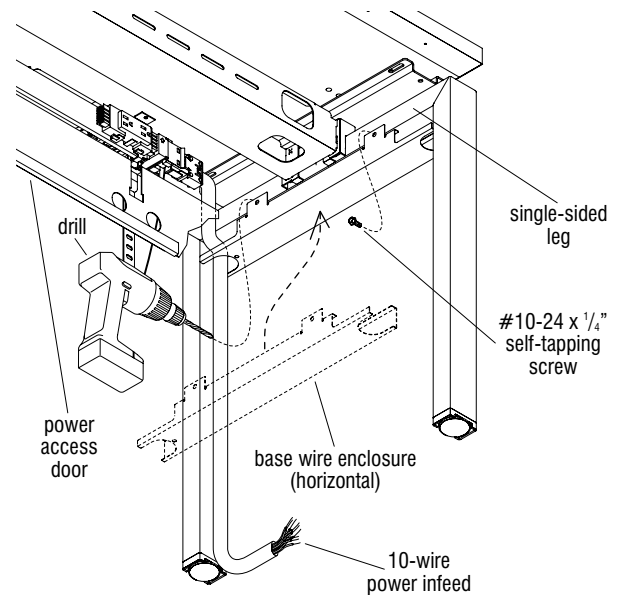

Figure 51
1. Determine which leg the base power infeed will run along into the benching system. If power access door is installed, it must be hung open to gain access to the 10-wire rigid wireway, power infeed location. If a power infeed connector end is already installed to the 10-wire rigid wireway, it is advised to disconnect it and set it aside to make pre-drilling procedure easier (Figure 51).
2. To pre-drill mounting holes, place the base wire enclosure (horizontal) up tight under the leg as illustrated with the tabs of the enclosure facing upward and to the inside of the leg under the table. Mark through the wire enclosure mounting holes in the tabs, to the inside of the leg and remove the enclosure. Use a #4 or 7/32" drill bit in a drill driver to carefully bore two holes at the center of the marked locations. Take care to not drill through the other side of the leg (Figure 51).
the power infeed into the U-shaped opening at the appropriate end of the wire enclosure (horizontal) to be installed. Position the wire enclosure between the leg uprights and move it up into position, adjusting as needed, keeping the power infeed inside the U-shaped opening, while moving the unit up to align the wire enclosure mounting holes in the tabs with the pre-drilled holes in the leg. Secure the enclosure to the inside of the leg using two #10-24 x 1/4" screws. Take care to not over tighten (Figure 51).